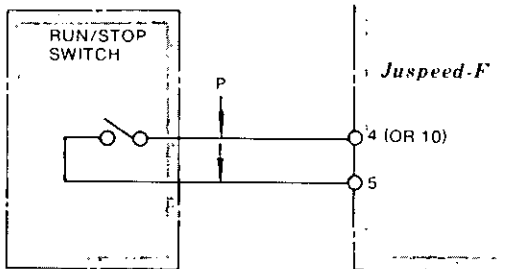

Fig. 4 Connections of RUN/STOP Switch
(1) SIGNAL LEADS
Use the twisted lead for connections to signal terminals ④ to ⑩. The signal line must be separated from main circuit terminals (T1) (U), (T2) (V), (T3) (W), (L1) (R), (L2) (S), and (L3) (T) and large-current electrical circuit (230 V, 120 V relay sequence circuit). See Fig. 4. Lead length should be 66 feet (20 meters) or less.